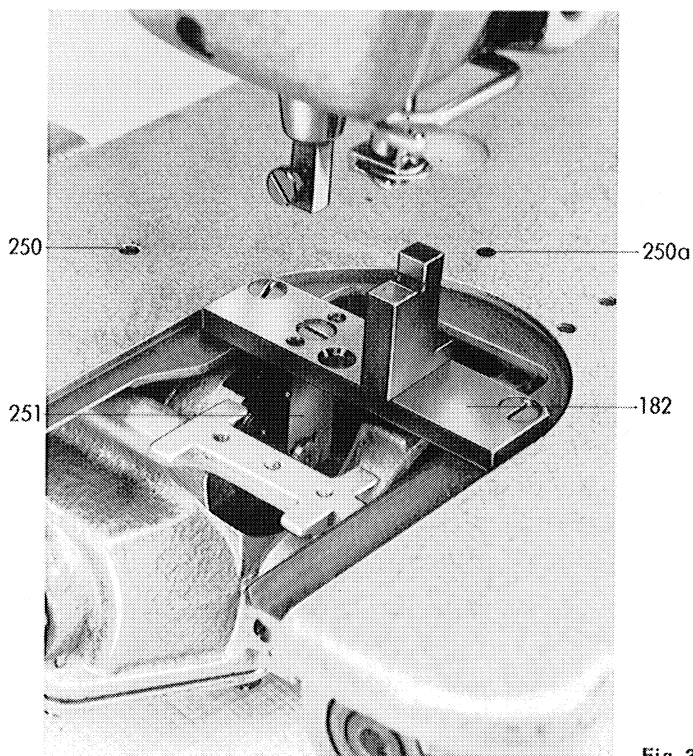

Fig. 37
1. Fasten the gauge 182 (fig. 37), ref. no. 2653042, on the throat plate support as described under chapter 34, items 1 to 8, and turn the hook gear case so that the hook shaft touches the two surfaces of the angular section 251 (fig. 37).
When carrying out the adjustments described in this chapter ensure that the hook shaft is always in contact with the two surfaces of the angular section 251 (fig. 37) of the gauge 182.
5. Retighten then the screws 222 and 223, set the stop screws, located under the counter screws 250 and 250a (fig. 37), against the hook gear case and secure them by tightening the counter screws.
6. Remove the gauge 182 (fig. 37) from the throat plate support.
4. Remove the counter screws 250 and 250a (fig. 37) and loosen by some threads the stop screws for the hook gear case.
5. Remove the counter screws 250 and 250a (fig. 37) and loosen by some threads the stop screws.
7. Depending on the sub-class — with small hook of about 35 Ø or big hook of about 42 Ø — screw the gauge 182 (fig. 37), ref. no. 2653042, with throat plate fastening screws onto the throat plate support, so that
8. Turn then the case so that the stop screws touch both surfaces of the angular section (see fig. 37).